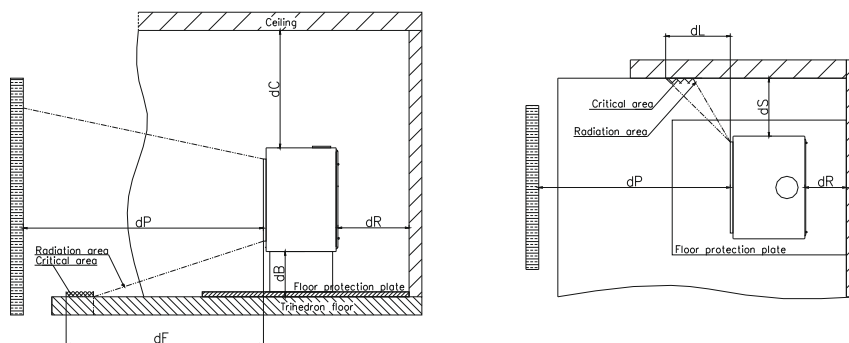

Figure 1
- The floor, where the wood-burning stove is placed, should be flat and horizontal, made of non-combustible materials (mosaic, marble, terracotta, etc.). If the floor is not heat resistant (carpets, linoleums or others of the same kind) a stable, non-combustible platform should be used, made of steel, glass or stone plates. The cooker should be installed only to non-combustible walls. In the presence of combustible materials and structures, the safety distances specified in (table 1, fig. 1) must be ensured: